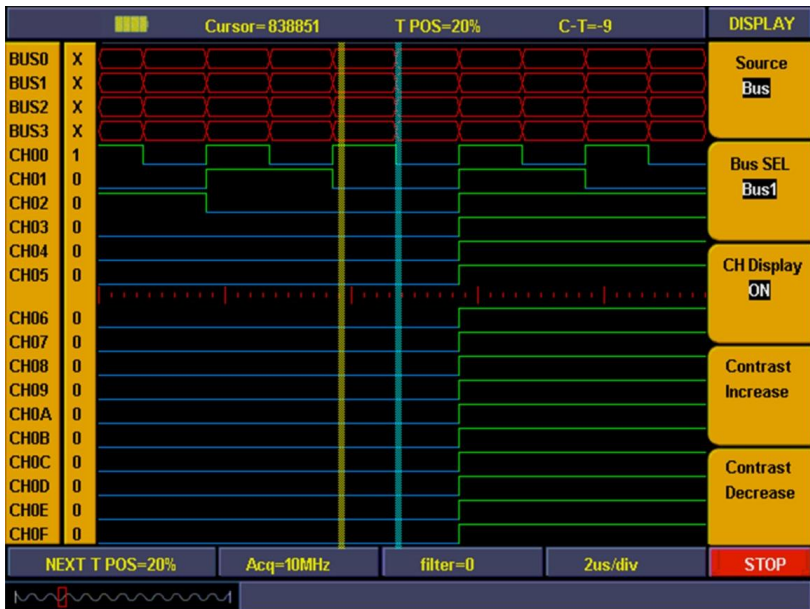

Fig. 13
4. Press "**F3**" and set the signal sources as "**ON**". Repeat operation of steps 3.4 and set CH01, CH02 as "ON" and CH03-CH0F as "**OFF**". Refer to Fig. 13.